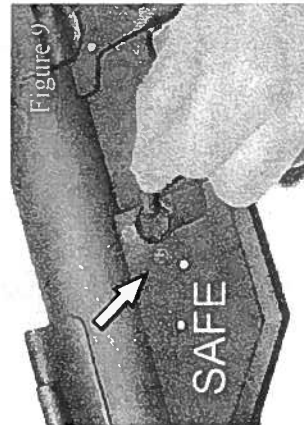

Figure 9
- 3) IMMEDIATELY place the safety selector in the "SAFE" position, (figure 9).
NEVER LEAVE YOUR CARBINE COCKED, READY TO FIRE WITHOUT THE SAFETY LEVER BEING SET ON "SAFE" (figure 9). THIS IS THE FIRE CONDITION AND IS EXTREMELY DANGEROUS; IT COULD BE ACCIDENTALLY DISCHARGED, CAUSING INJURY, DEATH OR DAMAGE TO PROPERTY.
To unload, retract bolt to verify the gun is empty. Position the selector lever to "SAFE", (figure 9).